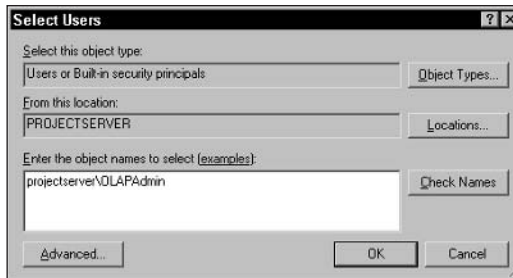

Figure 18-12: Supply the path for the OLAPAdmin account.
4. Click the Add button to display the Select Users dialog box (see Figure 18-12).
9. Click the Add button to display the Select Users dialog box (refer Figure 18-12).